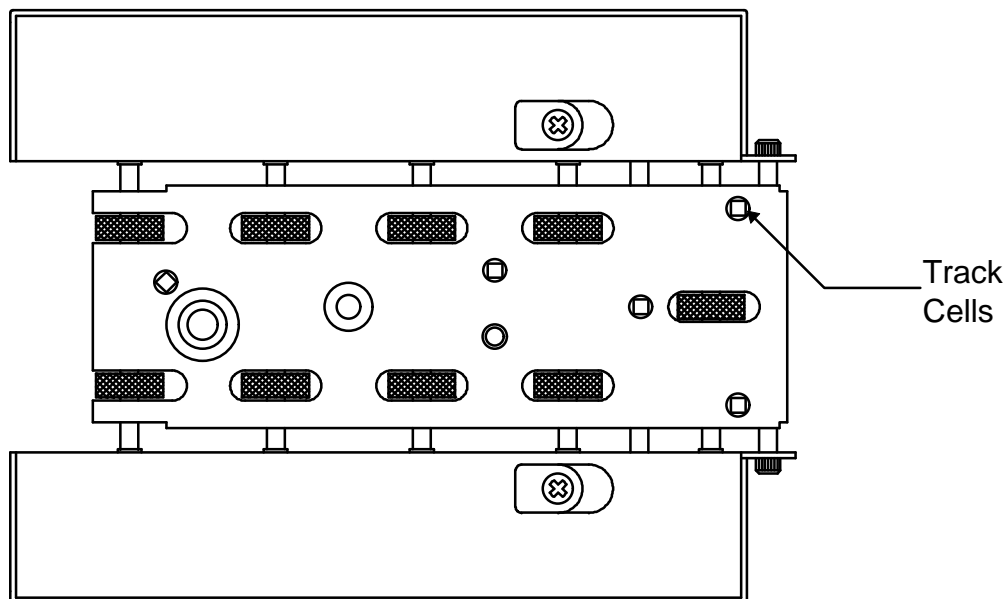

Figure 1
1. Initiate the “auto-calibration mode” by pressing the “DISPLAY AUDIT” button on the keyboard. See Fig 1. This allows the balance card to be accepted. The card will be rejected if the calibration mode is not initiated.